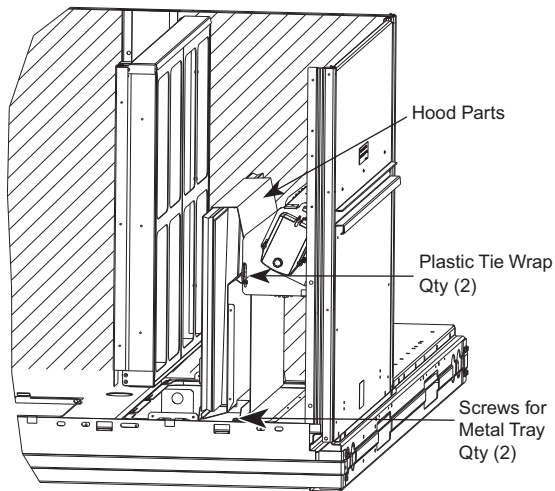

Fig. 11 — Economizer Hood Parts Location
2. Locate the (2) screws holding the metal tray to the basepan and remove. Locate and cut the (2) plastic tie-wraps securing the assembly to the damper. (See Fig. 11.) Be careful to not damage any wiring or cut tie-wraps securing any wiring.